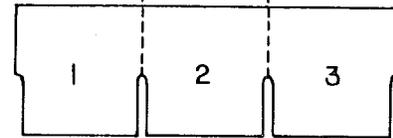

Fig. 17
9. Cut shingles for ridge cap and install as shown in Figures 17 and 18.